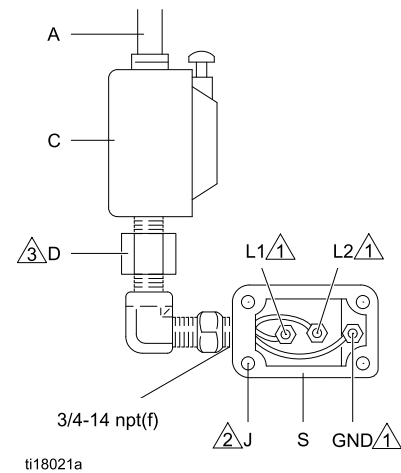

Figure 3 Connect the Power Wires, Single Phase
A conduit seal (D) is required within 18 in. (457 mm) of the motor for the US and Canada. See Fig. 3.
2. See Figs. 3 and 4. Install a start/stop control (C) in the electrical supply line (A), within easy reach of the equipment. The start/stop control must be approved for use in hazardous locations.
3. Open the electrical compartment (S) on the motor.
4. Bring the supply wires into the electrical compartment through the 3/4–14 npt(f) inlet port. Connect the wires to the terminals, as shown in Figs. 3 and 4. Torque the terminal nuts to 25 in-lb (2.8 N•m) maximum. **Do not over-torque.**
Notes for Figs. 3 and 4
1. Connect the supply ground wire in the electrical compartment as shown in Figs. 3 and 4.